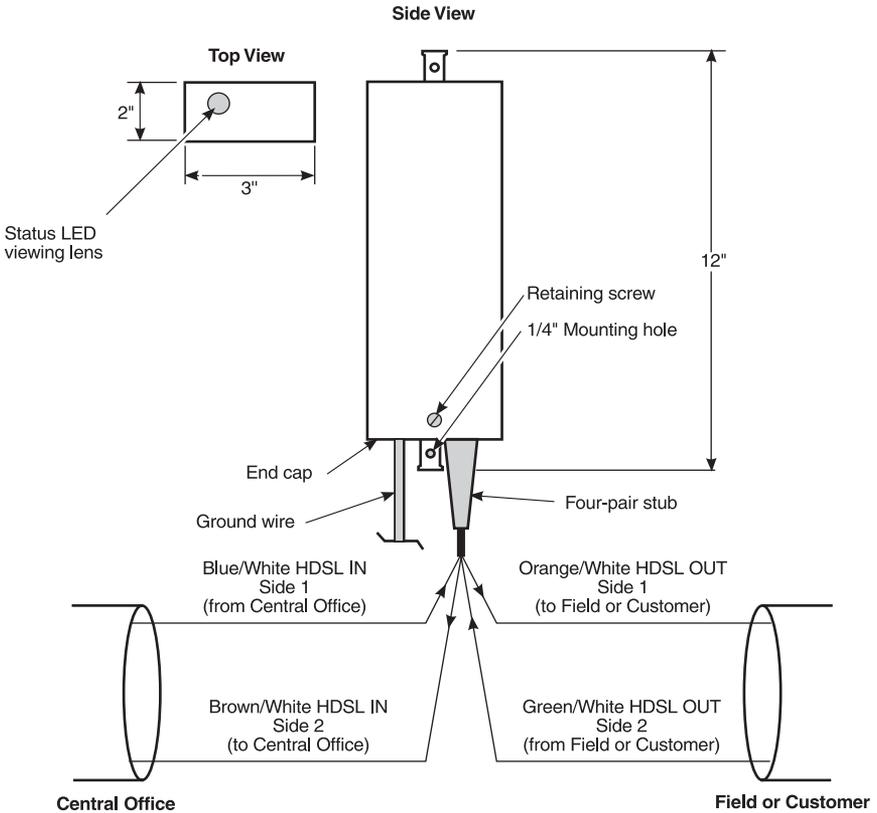

Figure 2. HRE-500 List 1 External Mechanics
Figure 2 shows the external mechanics of the HRE-500 List 1 including the status LED viewing lens, cable stub wiring assignments and enclosure dimensions.
The doubler single state LED can be viewed through the housing shown in Figure 2. Consult the appropriate doubler practice for information regarding the status LED.
- 1 Remove the small retaining screw from the lower front side of the case (see Figure 2 on page 4).
- 2 Loosen, but do not remove, the five compression bolts from the end cap (see Figure 2), then remove the end cap.